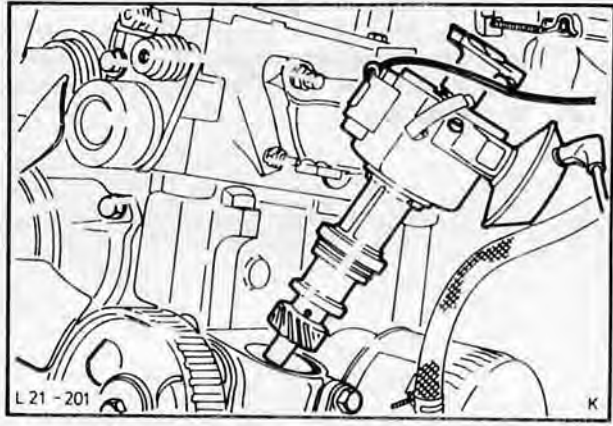

Fig. 231. Remove distributor
4. Remove distributor cap and remove distributor, Fig. 231. Unscrew auxiliary shaft toothed belt pulley bolt.